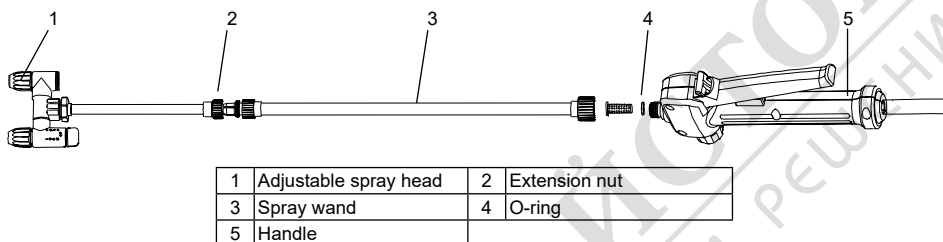

Figure 1
2. Make sure the O-ring is in place, then thread the spray wand onto the handle and tighten it securely. Refer to Figure 1.